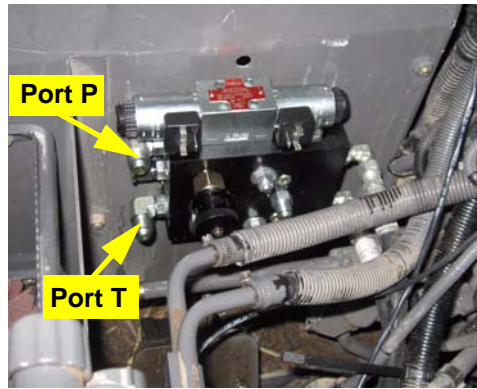

Figure 9a: Installed pressure and tank hose
- a. Route the tank hose **P** under the cab to the tank run-tee fitting **F** on the left side of the machine, and the opposite end of hose **P** to the automated steering block port **T** (Figures 9a and 9b).
- b. Attach the pressure hose **O** to the pressure run-tee fitting **F** and to the automated steering block port **P** (Figures 9a and 9c).